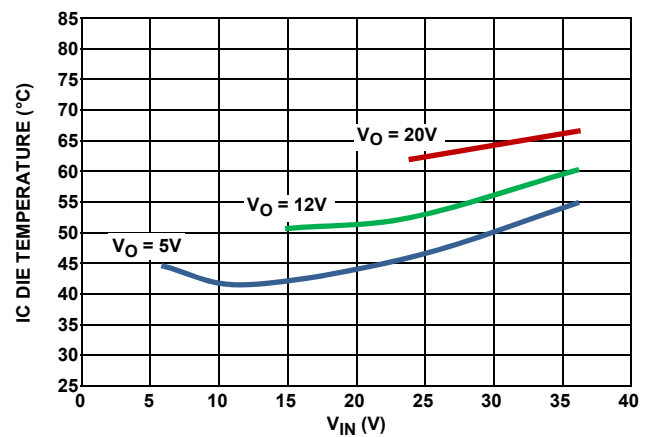

FIGURE 10. IC DIE TEMPERATURE UNDER  $+25^\circ C$  AMBIENT TEMPERATURE, STILL AIR, 500kHz,  $I_O = 2A$
- From the thermal perspective, the die temperature shouldn't exceed +125°C with the power loss dissipated inside of the IC. Figures 10 and 11 show the thermal performance of this part operating at different conditions.
Figures 10 and 11 shows 2A and 2.5A applications under +25°C still air conditions over VIN range. The temperature rise data in these Figures can be used to estimate the die temperature at different ambient temperatures under various operating conditions. Note that more temperature rise is expected at higher ambient temperature due to more conduction loss caused by rDS(ON) increase.